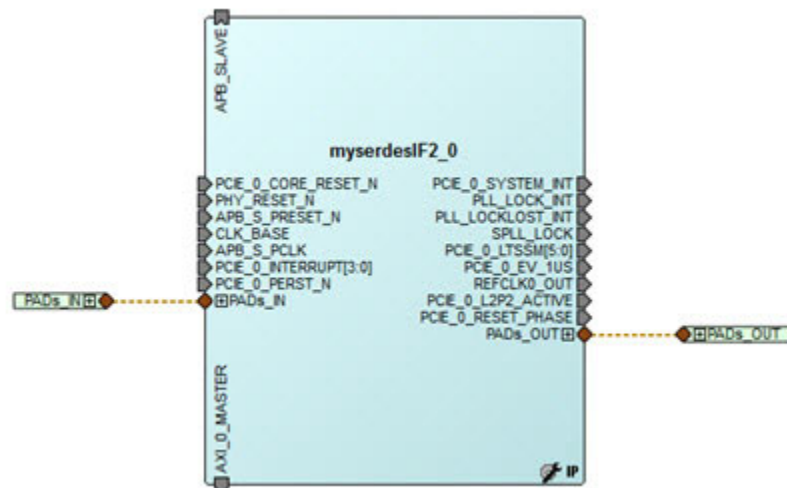
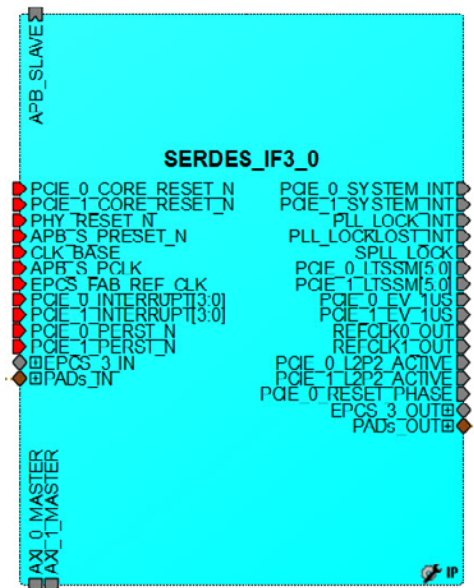

Figure 1 • SERDES IF2 Block Instantiation on the SmartDesign Canvas
Figure 2 • SERDES IF3 Block Instantiation on the Smart Design Canvas
1. Instantiate the High Speed Serial Interface 2 core or the High Speed Serial Interface 3 core from the Catalog into the SmartDesign Canvas, as shown in Figure 1 and Figure 2.